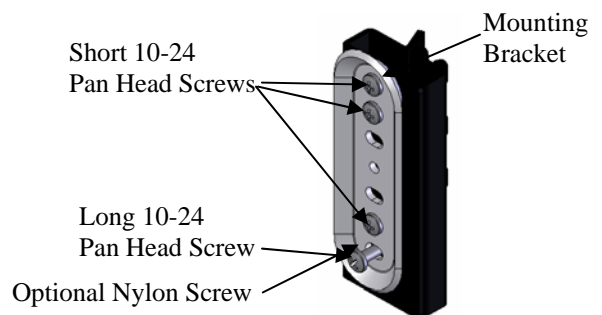
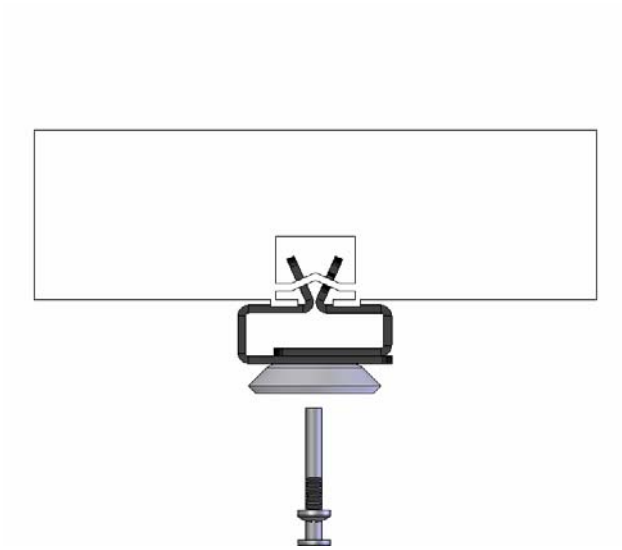

Figure 3
Figure 4
3. Secure the mounting bracket (supplied with your mounting assembly) by installing three short 10-24 pan head screws (see Figure 3 and Figure 4).
4. Secure the mounting bracket to the mounting furniture using the longer 10-24 pan head screw (see Figure 3 and Figure 4).